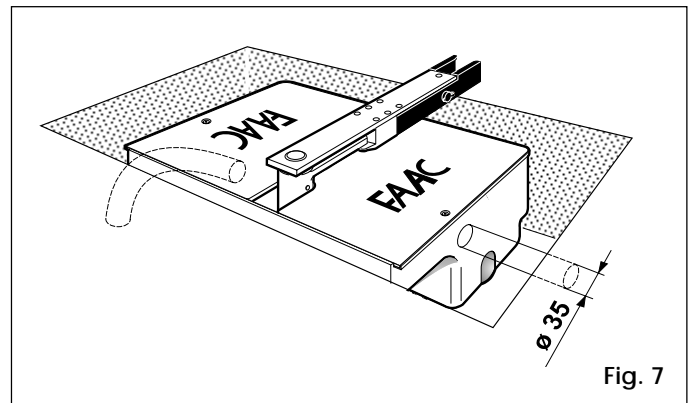

Fig. 7
- 3) Lay down a PVC tube of diameter 35 mm through which to pass a 4 core electrical cable. The tube must reach from the box to the control unit (fig. 7). Lay a second tube to drain off rain water, from the box to the nearest drain (fig. 7).